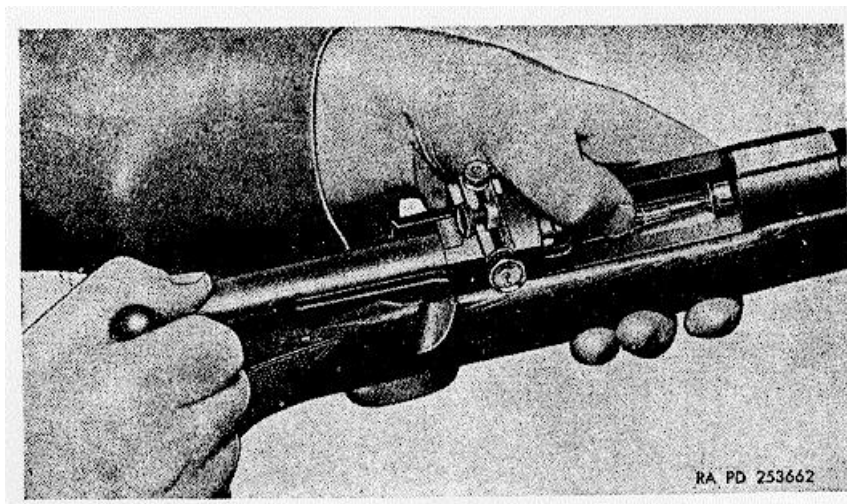

Figure 38. Loading cartridge into chamber (Winchester rifle M70).
- (1) Pull bolt fully rearward (par. 15a).
- (2) Insert five cartridges into the magazine (par. 15c). A sixth cartridge may be loaded into chamber (fig. 38) if necessary, while holding down on the magazine before starting bolt forward.
- (3) Push bolt forward and lock the bolt (par. 15a).
- (4) Place safety lock to FULLY ON position (par. 15e).